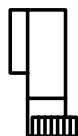

Figure 32. Maximum number of sample vials with one solvent bottle and a 10- μ l syringe
1. Go to the **S** table in Figure 32. In the left-hand column, find the largest number of solvent washes you need from a solvent bottle. If you use a tray, you can divide the solvent washes between *both* waste bottles.
1. Go to the **S** table in Figure 32. In the left-hand column, find the largest number of solvent washes you need from a solvent bottle, **answer (3)**.
2. Read across this row to the column indicating the number of injections you are taking from each vial, **answer (2)**.